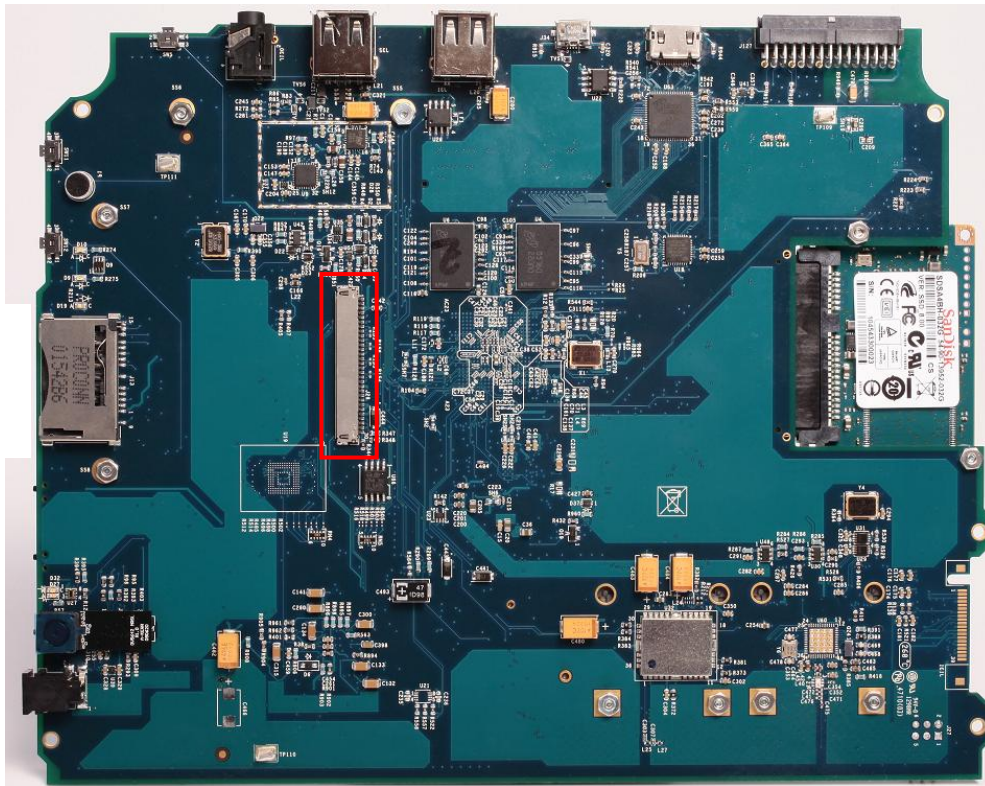

Figure 4-10. LVDS Connector
The MCIMX53SMD board includes two 30-pin (Hirose, DF19G-30P-1H (56)) connectors for using with the LVDS display. Freescale has made available a cable and LVDS1 display (HannStar, HSD100PXN1-A00-C11). The LVDS connectors are located on the top and bottom side of the board in the location shown in **Figure 4-10**.